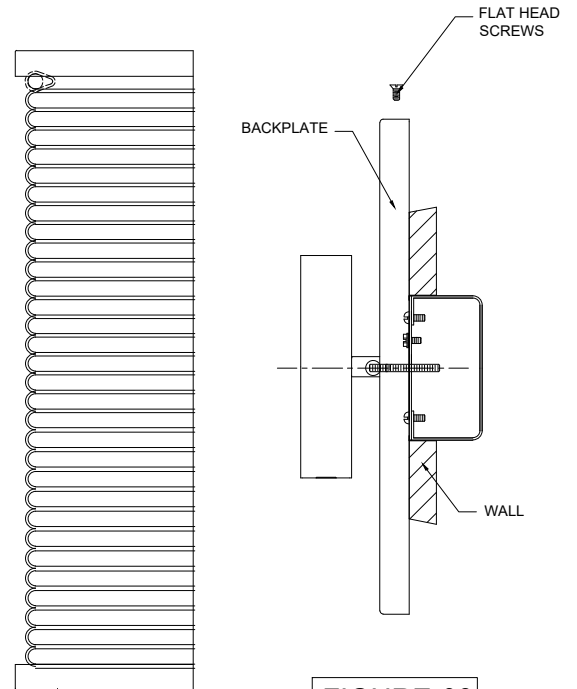

FIGURE-03
- Attach the fixture to the backplate and secure with flat head screws. (See Figure-03)